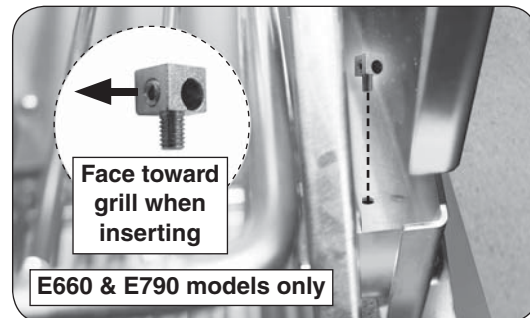
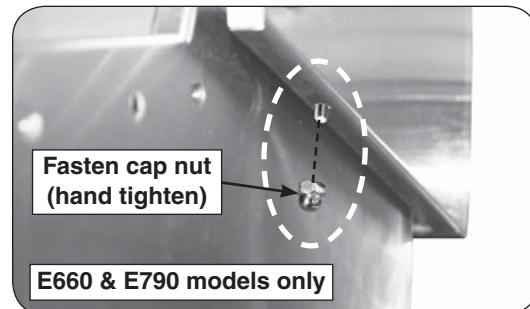

Fig. 2-3 Install bracket screw & cap nut
Fig. 2-4 Fasten cap nut to bracket screw
3. Using long reach needle nose pliers, insert the bracket screw into the hole located on the inner lip of the oven lid (see Fig. 2-3, then loosely fasten the cap nut (hand tighten) to temporarily keep the bracket screw in place (see Fig. 2-4).
Important: The bracket screw head MUST face toward the center of the grill as shown in Fig. 2-3.